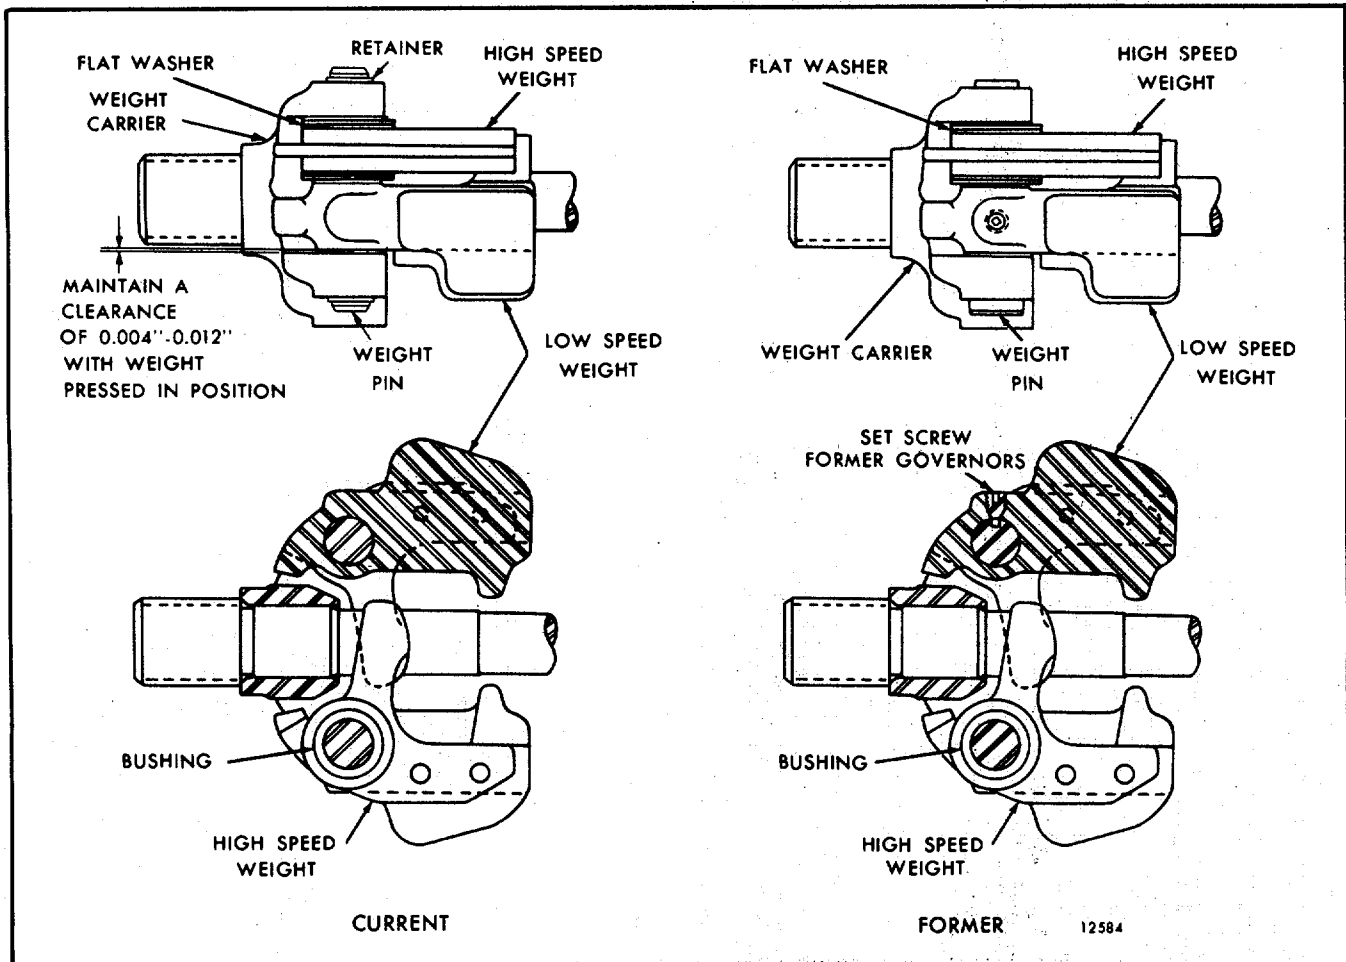

FIG. 11 Cross Section of Governor Double Weight Assemblies (Former and Current)
- a. Matchmark the low and high-speed weights and carrier with paint or a center punch for identification; also note the position of the flat washer at the side of the high-speed weight so the parts can be replaced in their original positions (Fig. 11).
- b. If removal of the weights from the carrier is necessary on current double weight governors, refer to Fig. 11 and remove the retainer from the weight pin. Press the pin from the low-speed weight. The high-speed weight is not a press fit. On former governors, remove the set screw from